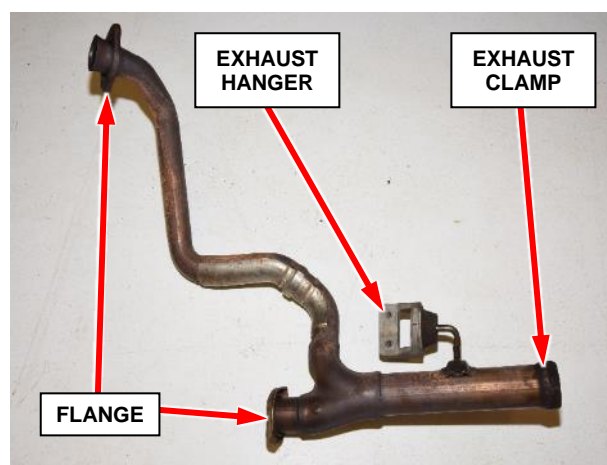

Figure 9 – “Y” Pipe
20. Remove the exhaust clamp (Figure 9).
21. Remove the right side exhaust flange bolts (Figure 9).
22. Remove the left side exhaust flange bolts (Figure 9).
23. Remove the “Y” pipe (Figure 9).